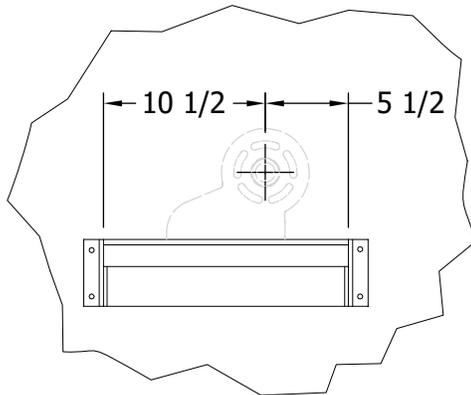

Figure 25-2
- 1) **Figure 25-2.** Drill four 3/8" holes using the mounting bracket as a template for the hole locations.